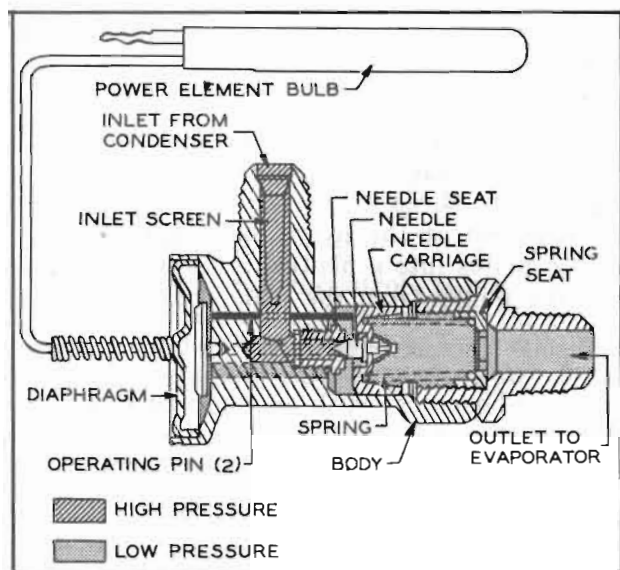

Figure 11-18—Non-adjustable Expansion Valve
4. *Thermostatic Expansion Valve.* A non-adjustable expansion valve is located at the bottom of the evaporator core on the outside of the case. The liquid enters the valve at the $\frac{3}{8}$ " flare fitting, passes through the needle seat orifice, and leaves the valve at the $\frac{1}{2}$ " flare connection and enters the evaporator. See figure 11-18.